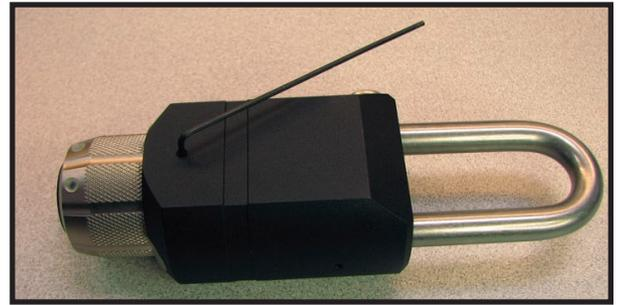

Figure 1: *Allen Wrench in Pin Hole*
- 2.1) Insert a 1/16" Allen wrench into the hole on the back shown in Figure 1.